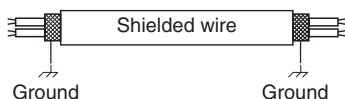

Fig. 4-4
- Use shielded wires for inter-unit control wiring (c) and ground the shield on both side, otherwise malfunction from noise may occur. (Fig. 4-4) Connect wiring as shown in Section “4-3. Wiring System Diagrams”.